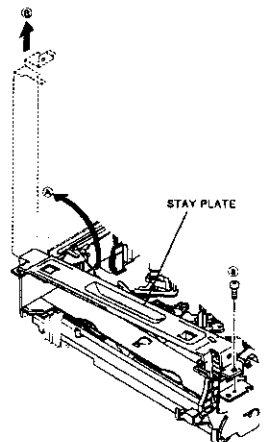

Fig. 2-2-1
1. Unfasten the STAY PLATE fastening screw (a) shown in Fig. 2-2-1.
2. Raise the STAY PLATE in the direction shown by arrow (A) so that it stands completely in vertical as shown in Fig. 2-2-1. Remove the STAY PLATE in the direction shown by arrow (B).
1. Install the STAY PLATE shown in Fig. 2-2-1.